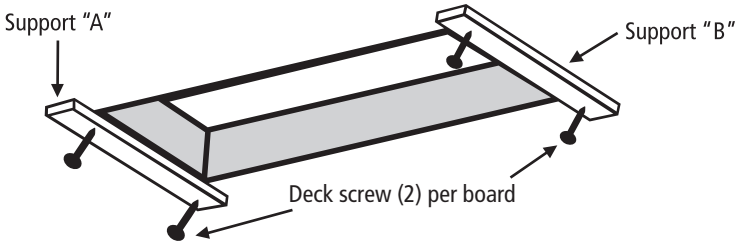
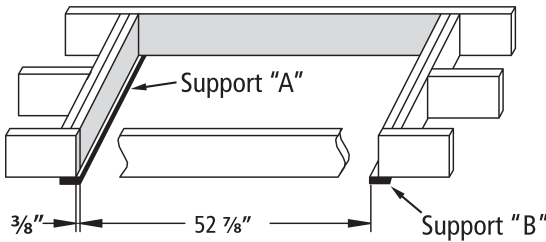

FIGURE 4: View from below
FIGURE 5: View from above
- A. Attach temporary supports "A" and "B" with 2 ½" deck screws as shown in Figure 4. Support "A" should be located at the end where the door hinge of the ladder will go. The edge of support "A" should extend into the rough opening ¾" as shown in Figure 5. Make sure both screws penetrate header above ceiling.
- B. Measuring from the inside edge of support "A", locate and secure the inside edge of support "B" 52 7/8" from inside edge of support "A" (Figure 5). Make sure both screws penetrate header above ceiling.